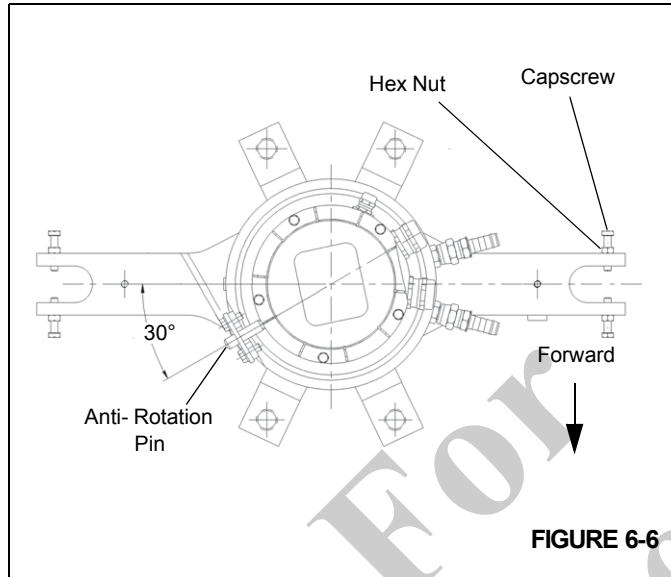

FIGURE 6-6
- Ensure the anti-rotation pin in the bottom of the electrical swivel base is aligned with the mounting hole in the bracket on the water swivel case (Figure 6-6).